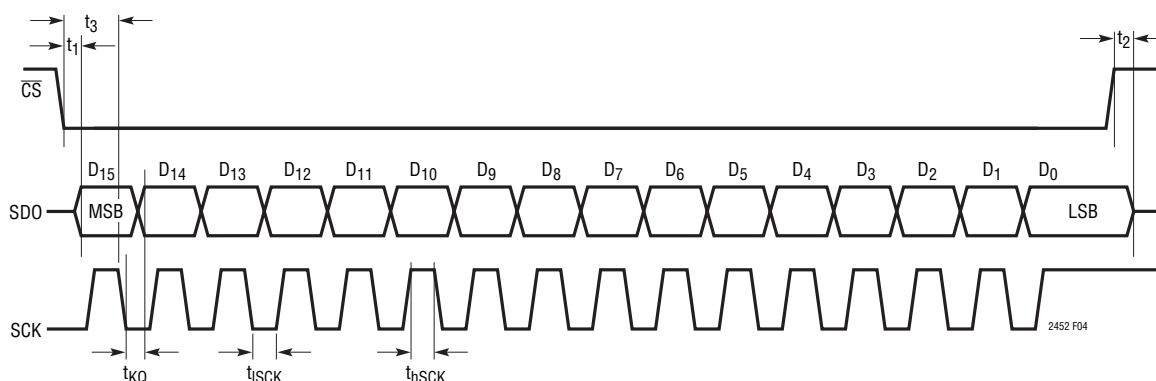

Figure 4. Data Output Timing
**Note 7:** See Figure 4.
The LTC2452 generates a 16-bit direct binary encoded result. It is provided as a 16-bit serial stream through the SDO output pin under the control of the SCK input pin (see Figure 4).